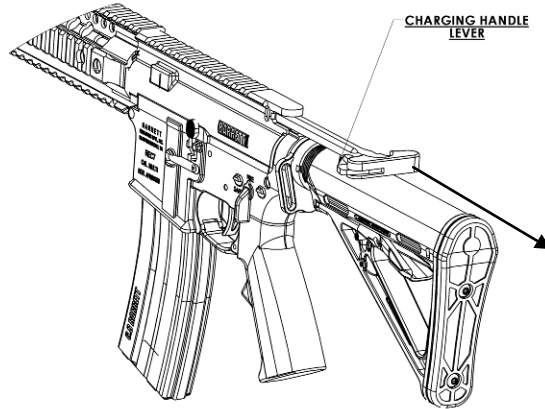
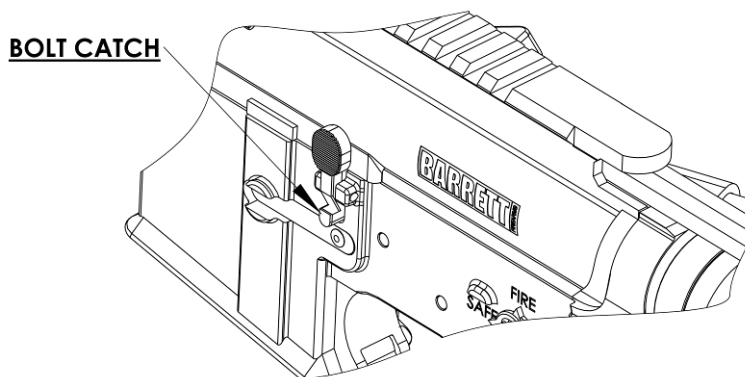
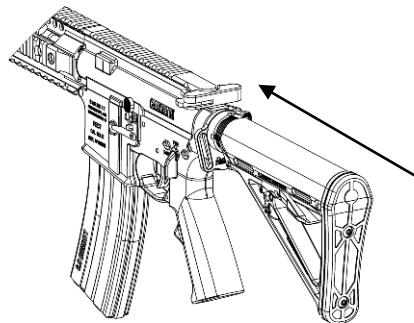

Figure 13
Figure 14
Figure 15
3. To lock the bolt open, pull the charging handle and hold it rearward. (Figure 13). While holding the charging handle rearward, depress the bottom of the bolt catch. (Figure 14). Push the charging handle forward until it latches. (Figure 15).